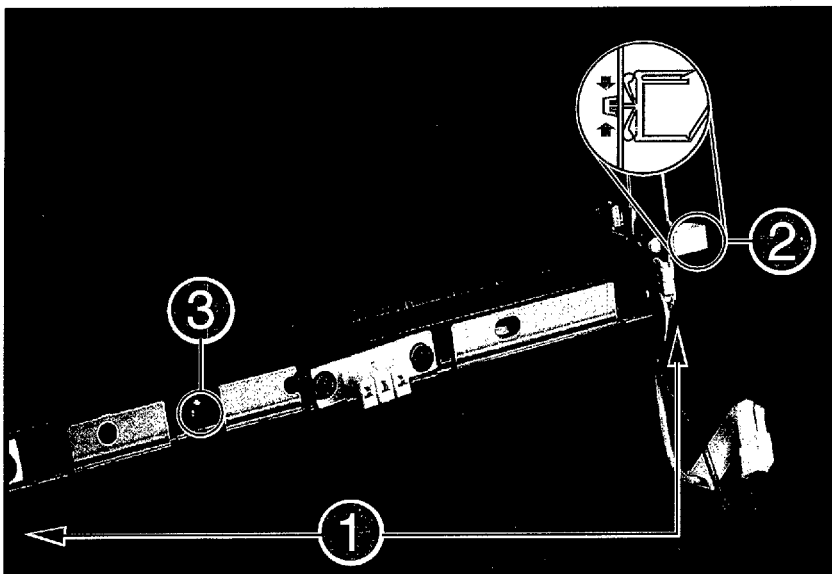

Figure 6-33 Removing the Fuser Connector Assembly
1. Remove the connector wires from each end of the Connector Assembly (Figure 6-33, callout 1).
2. Gently squeeze the cable clip tabs using needle nose pliers and slide the cable clip out of the frame (Figure 6-33, callout 2).
3. Remove the (1) machine screw (Figure 6-33, callout 3).